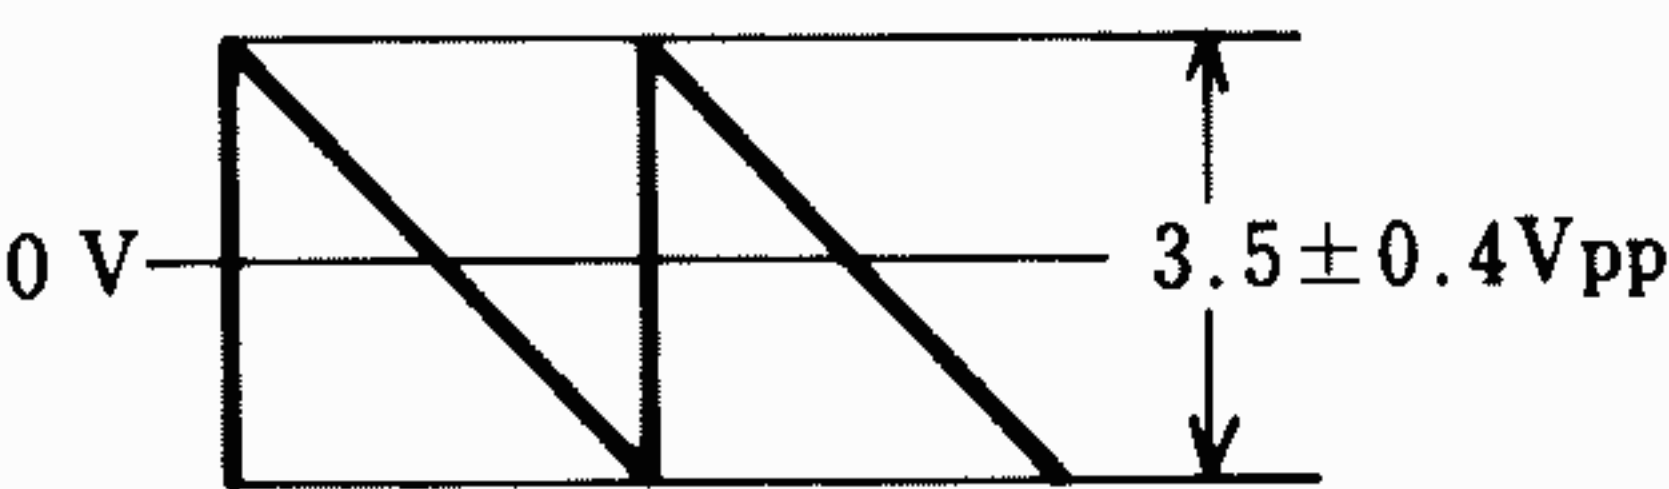
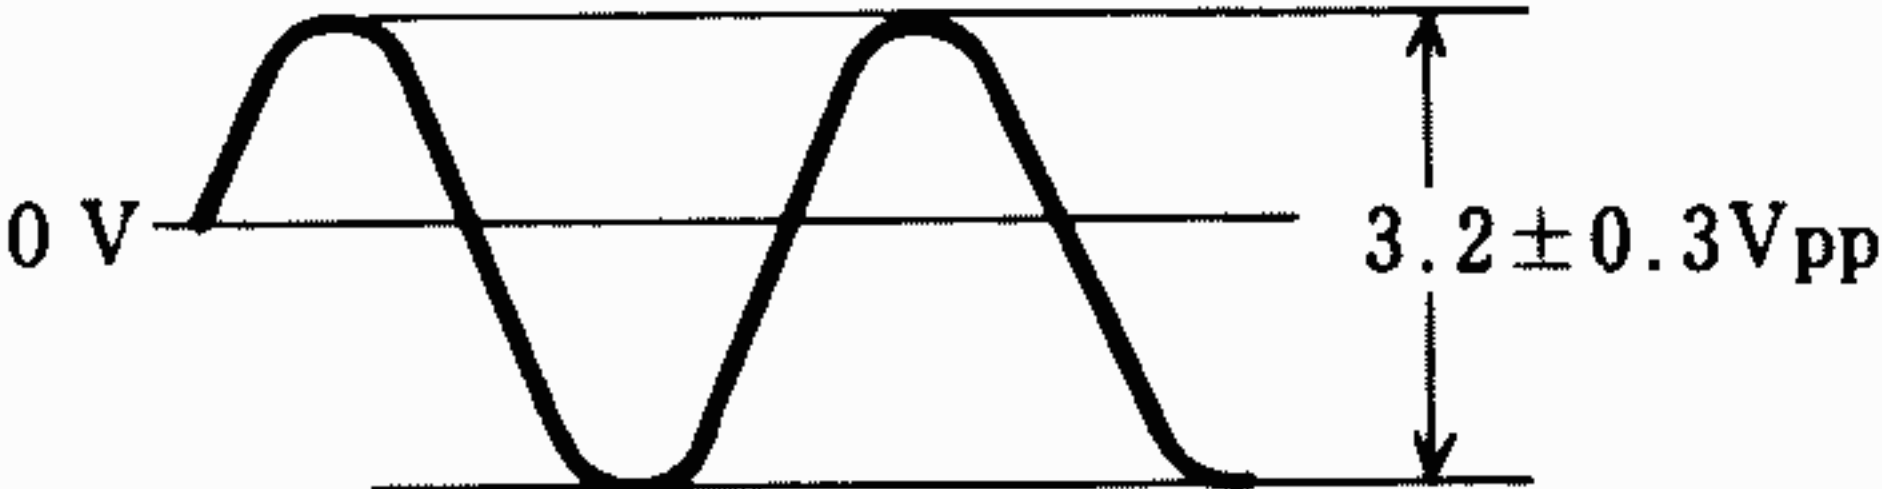

Fig. 1
Fig. 2
- b) Set the FEET and PW/PWM Vol. to "8" " and "0". Then, make sure that a waveform as in Fig. 1 or 2 is obtainable at the OUT terminal when the  or  Vol. is set to "10".
Set the LFO Speed Vol. and $\sim/\searrow$ Switches to "S" and " $\searrow$ " positions, and make sure that a waveform as in Fig. 1 is obtained at the LFO terminal. Adjust VR12 until the frequency becomes 0.1Hz. Then, set the LFO Speed Vol. to "F", and adjust VR13 until the frequency becomes 100Hz. In this case, light-emitting diodes should light according to the frequency. Confirm that a waveform as in Fig. 2 is obtained when $\sim/\searrow$ Switch is set to " $\sim$ " position.
- b) After the adjustment in item 1-a) is completed, turn on a key and make sure that a waveform as in Fig. 2 is obtained at TP3. In this case, adjust VR8 until T equals 4m sec. Adjust the Attack Time Vol. until a voltage of $3.0 \pm 0.1V$ is present at TP2. If T is longer or shorter than 125m sec, adjust VR9 so that T becomes even longer or shorter. Then, supply 8V to TP2, and adjust for 4m sec. Repeat the adjustment until both T's are within $\pm 5\%$.
- b) After the adjustment in item 2-a) is completed, apply a sine wave of 1kHz, 5Vp-p to the AI terminal. Then, set the VOLUME to the "10" position, and adjust VR12 until a sine wave of $1.5 \pm 0.2V$ is obtained at the OUT terminal.